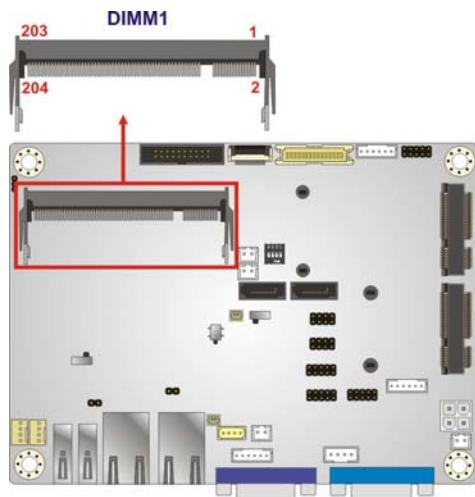

Figure 3-7: DDR3L SO-DIMM Slot Location
**Table 3-7: CPU Fan Connector Pinouts****3.2.6 DDR3L SO-DIMM Slot****CN Label:** DIMM1**CN Type:** DDR3L SO-DIMM slot**CN Location:** See **Figure 3-7**